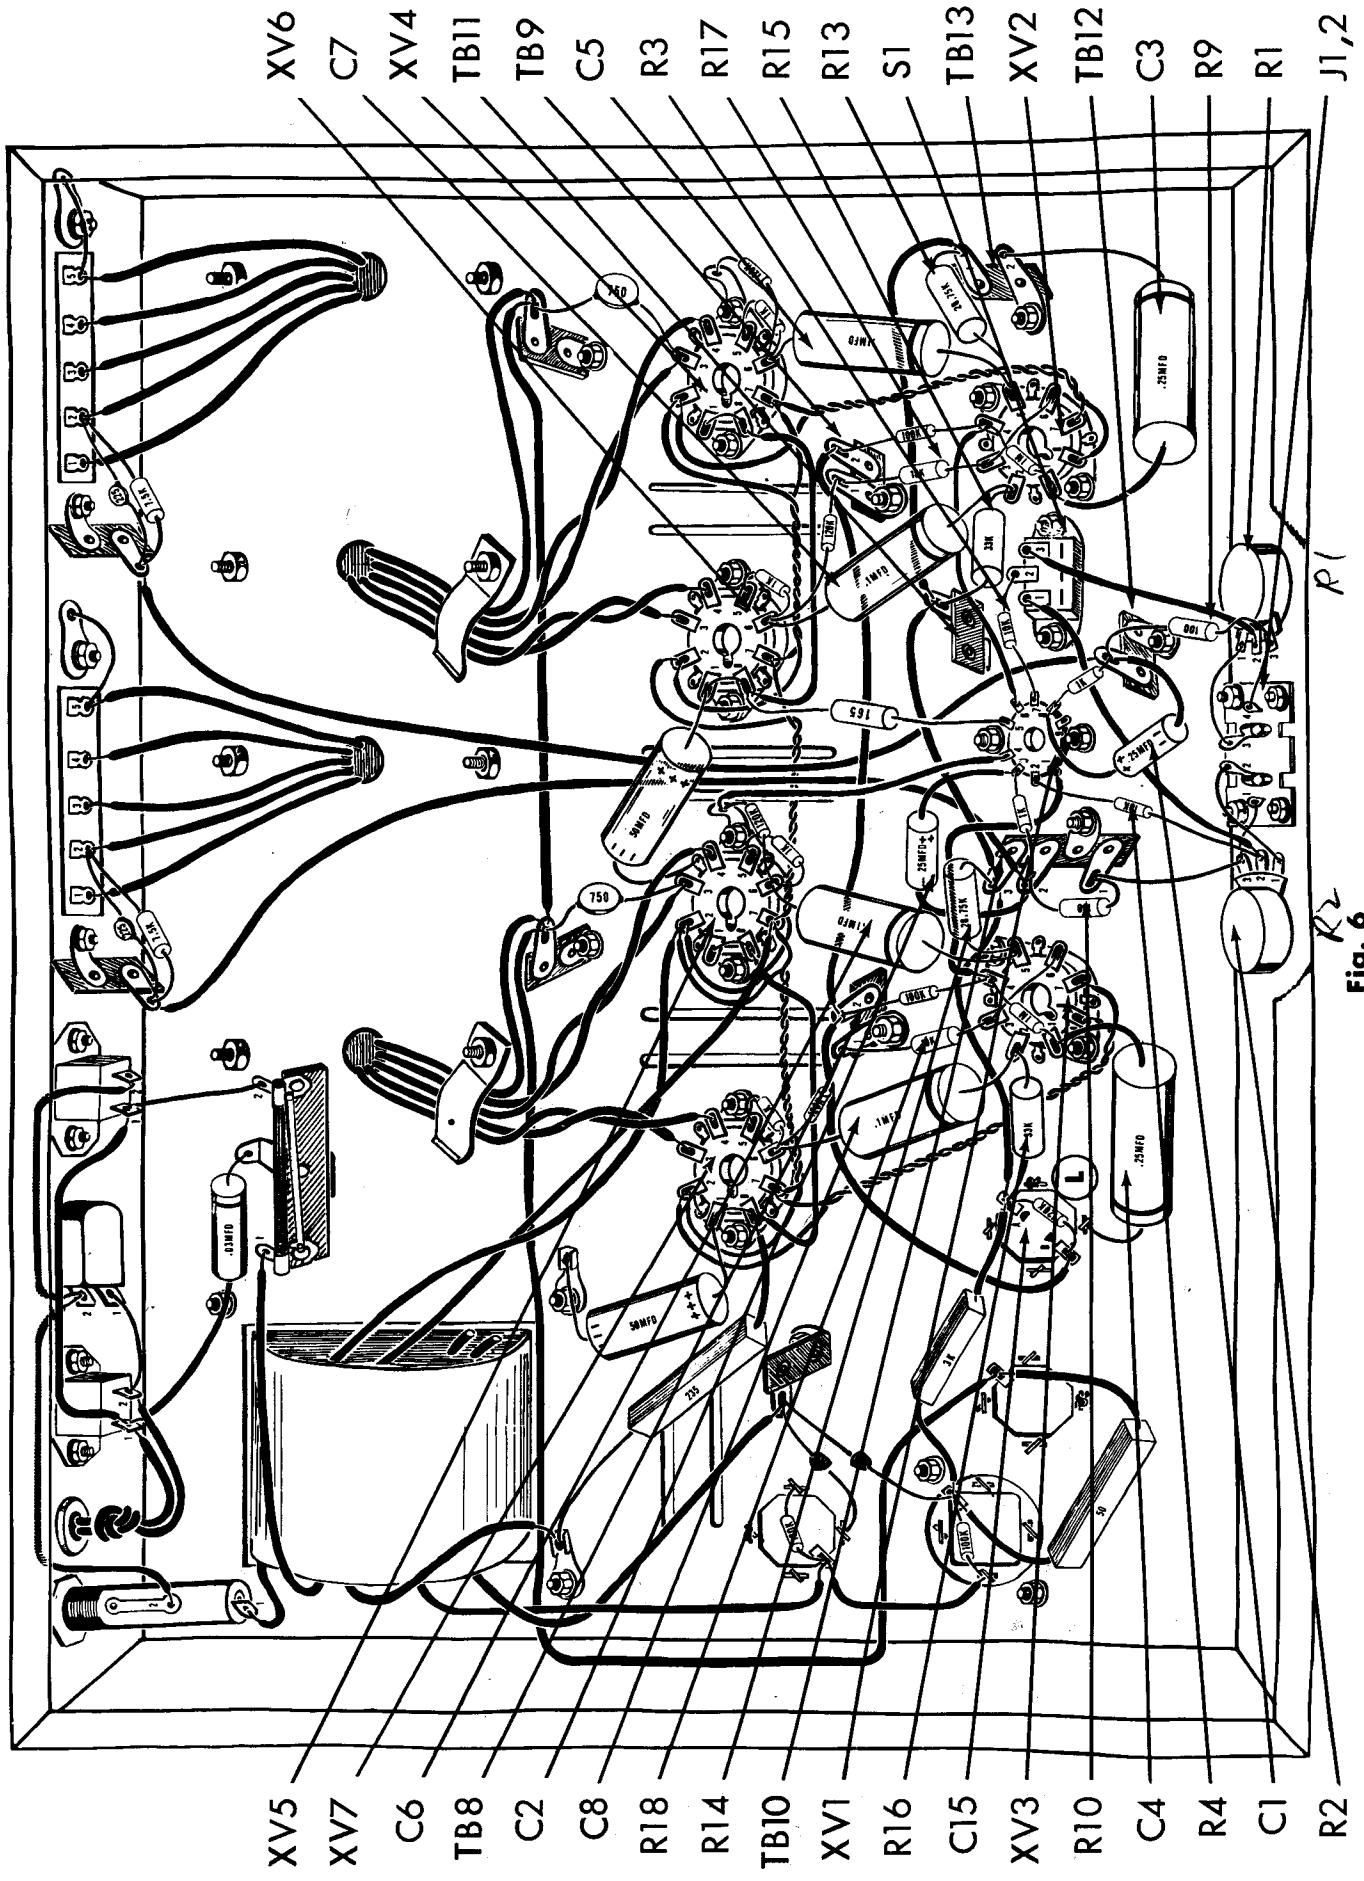

Fig. 6
- (✓) 1. Fig. 6. Connect a 1 1/4" piece of bare wire from R2-3 (C) to TB10-1 (C).
- (✓) 2. Fig. 6. Connect a 1 1/4" piece of bare wire from J1, 2-1 (S1) to R2-3 (S2).
- (✓) 3. Fig. 6. Connect a 1 1/2" piece of bare wire from J1, 2-2 (S1) to R2-1 (S1).
- (✓) 4. Fig. 6. Connect a 1 1/4" piece of bare wire from J1, 2-4 (S1) to R1-3 (C).
- (✓) 5. Fig. 6. Connect a 1 1/4" piece of bare wire from J1, 2-3 (S1) to R1-1 (S1).
- (✓) 6. Fig. 6. Connect a 3" piece of green wire from R1-2 (S1) to S1-3 (S1).
- (✓) 7. Fig. 6. Connect a 4" piece of green wire from R2-2 (C) to S1-1 (S1).
- (✓) 8. Fig. 6. Cut both leads on a 25mfd 6 volt electrolytic capacitor, C1, to 1". Cover each lead with a 3/4" piece of spaghetti. Connect the positive lead to XV1-8 (S2) and the negative lead to TB12 (C).
- (✓) 9. Fig. 6. On the other 25mfd 6 volt electrolytic capacitor C2, cut the positive lead to 3/4". Cover this lead with a 1/2" piece of spaghetti and connect to XV1-3 (S2). Cut the remaining lead to 1 1/4" and cover it with a 1" piece of spaghetti. Connect this lead to TB10-2 (C).
- (✓) 10. Fig. 6. Cut all leads on two 100Ω (brown, black, brown, gold) 5% resistors, R9 and R10, to 1/2". Connect R9 from TB12 (S4) to R1-3 (S2). Connect R10 from TB10-1 (S2) to TB10-2 (S4).
- (✓) 11. Fig. 6. Cut one lead of the 10K (brown, black, orange, silver) resistor R3 to 1/2" and the remaining lead to 1". Connect the shorter lead to XV1-7 (S1) and the longer lead to S1-2 (S1).
- (✓) 12. Fig. 6. Cut one lead on the 10K (brown, black, orange, silver) resistor, R4, to 1/2" and the remaining lead to 1 1/4". Connect the shorter lead to XV1-2 (S1) and the longer lead to R2-2 (S2).
- (✓) 13. Fig. 6. Cut all leads on two .25 mfd (red, green, yellow, white, yellow) 400 volt molded capacitors, C3 and C4, to 1 1/4". Cover one lead of C3 with a 1" piece of spaghetti and connect to XV2-1 (S2). Connect the remaining lead to TB13-2 (S1). Cover one lead of C4 with a 1" piece of spaghetti and connect to XV3-1 (S2). Connect the remaining lead to ground lug "L" (S1), at C15.
- (✓) 14. Fig. 6. Cut all leads on two 18K (brown, grey, orange, gold) 5%, 1 watt resistors R17 and R18, to 3/4". Connect R17 from XV2-3 (S2) to TB9-1 (S2). Connect R18 from XV3-3 (S2) to TB8-1 (S2).
- (✓) 15. Fig. 6. Cut all leads on two 28.75K (red, grey, grey, gold) 5%, 1 watt resistors, R13 and R14, to 1/2". Connect R13 from TB13-1 (S2) to XV2-5 (C). Connect R14 from XV3-5 (C) to TB10-3 (S3).
- (✓) 16. Fig. 6. Cut all leads on two 33K (orange, orange, orange, gold) 5%, 1 watt resistors, R15 and R16, to 3/4". Connect R15 from XV2-2 (C) to TB11 (S3). Connect R16 from XV3-2 (C) to C15A (S4).
- (✓) 17. Fig. 6. Cut all leads on four .1 mfd (brown, black, yellow, white, blue) molded capacitors, C5, C6, C7, and C8, to 1". Connect C5 from XV2-5 (S2) to XV4-6 (S3). Connect C7 from XV2-2 (S2) to XV6-6 (S3). Connect C6 from XV3-5 (S2) to XV5-6 (S3). Connect C8 from XV3-2 (S2) to XV7-6 (S3).
- ( ) 18. Fig. 6. Push the end of the line cord with tinned leads through the rubber grommet at the rear of the chassis. Tie a knot in the line cord 2" from the tinned ends. This knot is to be tied inside the chassis so that the line cord cannot pull through the grommet. Connect one of the tinned leads to J4-2 (S2) and the remaining tinned lead to J4-1 (S3).